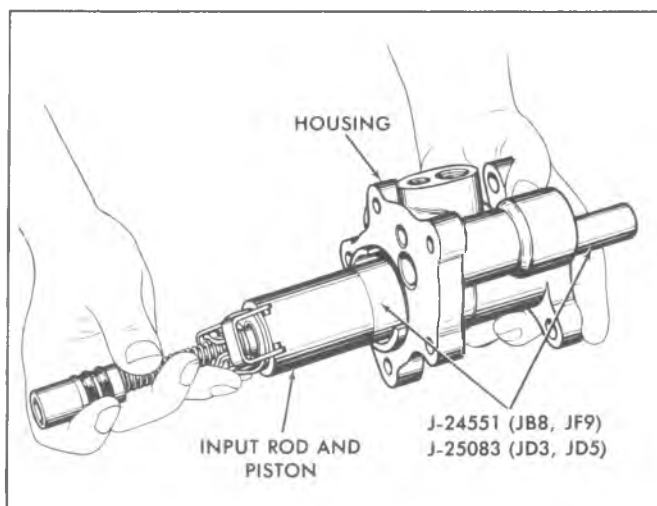

Fig. 5-13E--Installing Input Rod and Piston Assembly into Booster (Typical)
8. Lubricate the piston and Piston Installing Tool with clean power steering fluid. Hold the large end of the tool against the piston (fig. 5-13E), and slide the tool and piston into the piston bore and through the piston seal. Remove piston installing tool.